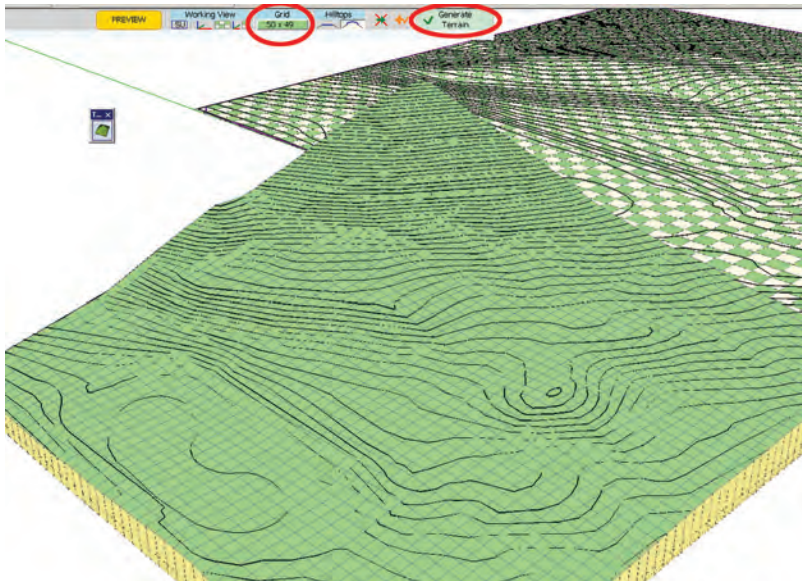

Fig. 15-8: Adjust the grid spacing to generate a tighter or larger mesh.
- On the second screen, adjust the grid spacing to generate a tighter or larger mesh. Select the Grid option if you want to adjust the size. Once you are done, select Generate Terrain (Fig. 15-8).